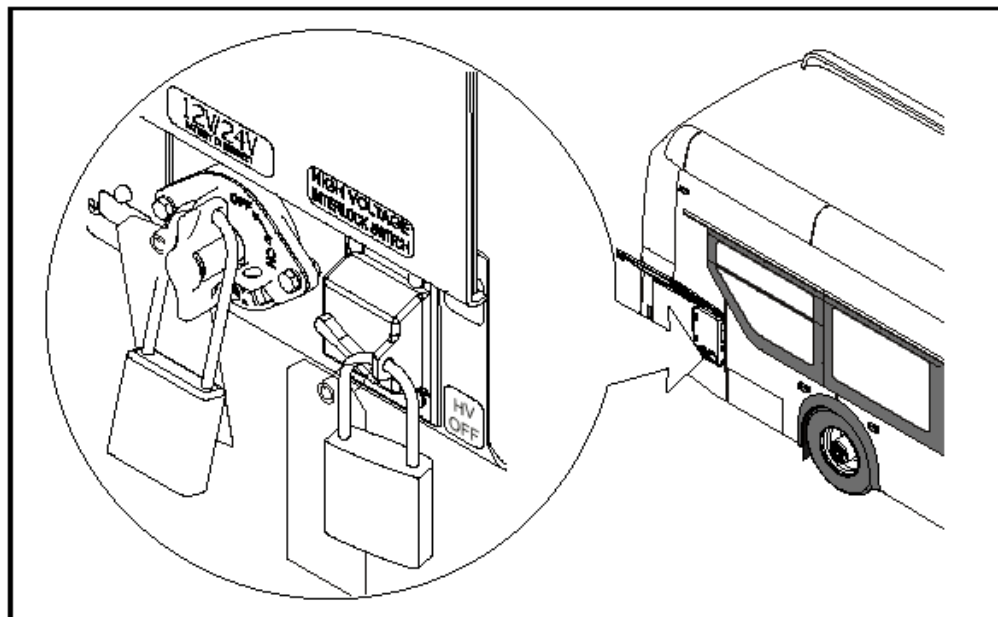

Figure 1- Lockout tagout location reference
- 1.3. Lock and tag the electrical system of the bus out and retain the key. See Figure 1.